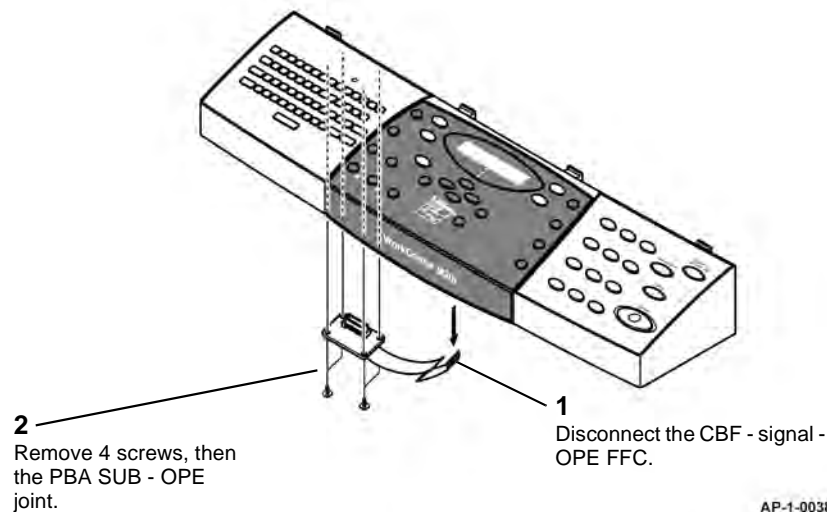

Figure 1 PBA SUB - OPE joint removal
2. Remove the PBA SUB - OPE joint, Figure 1.